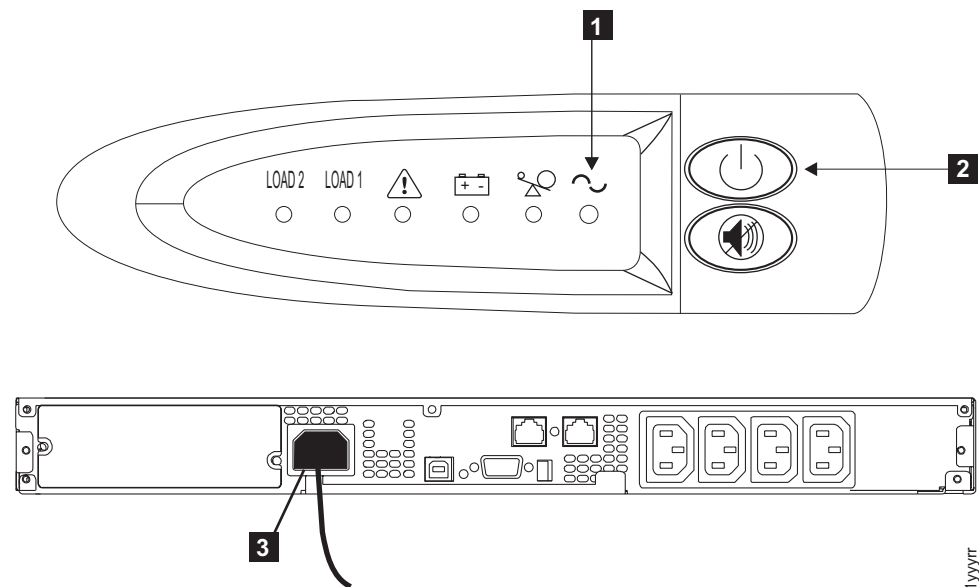

Figure 155. Front and back panels for the 2145 UPS-1U
2. Press and hold the on/off button **2** until the power light **1** is extinguished (approximately five seconds). The 2145 UPS-1U enters standby mode, with all indicators off. See Figure 155 for an illustration of the front and rear view of the 2145 UPS-1U.